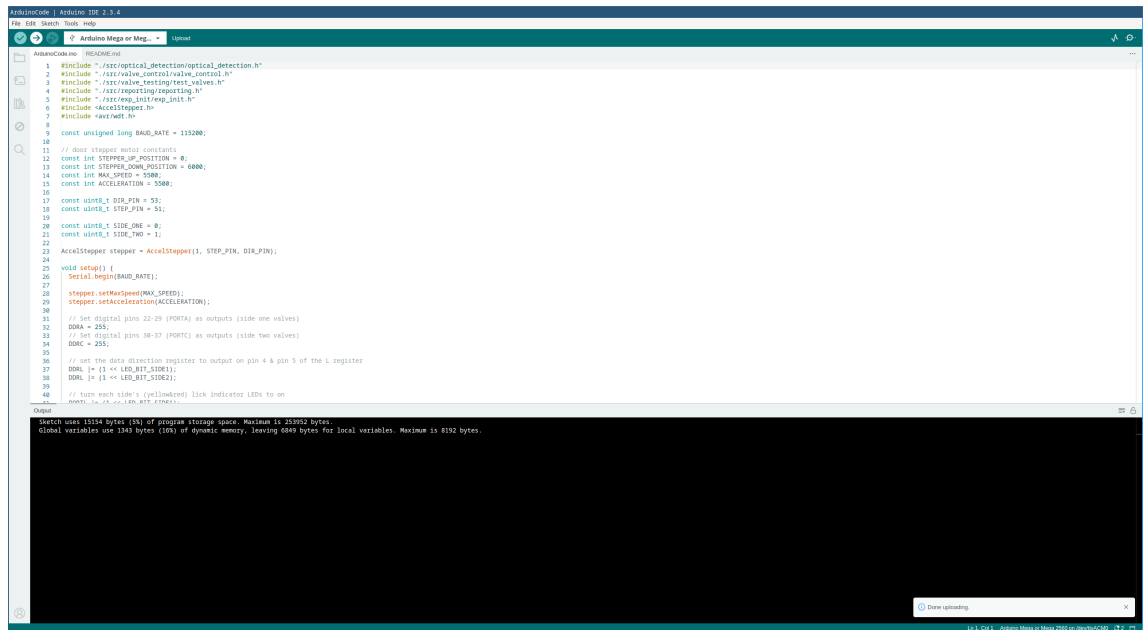

Figure 10: A Successful Upload Shows a 'Done Uploading' Notification.
7. **Upload the Update to the Board** - In the green top bar, hit the middle (second) button with a right arrow in it. This will upload the update to your board. If the update succeeds, you will see a small 'Done Uploading,' message in the bottom right hand side of your screen. This is shown in Figure 10.